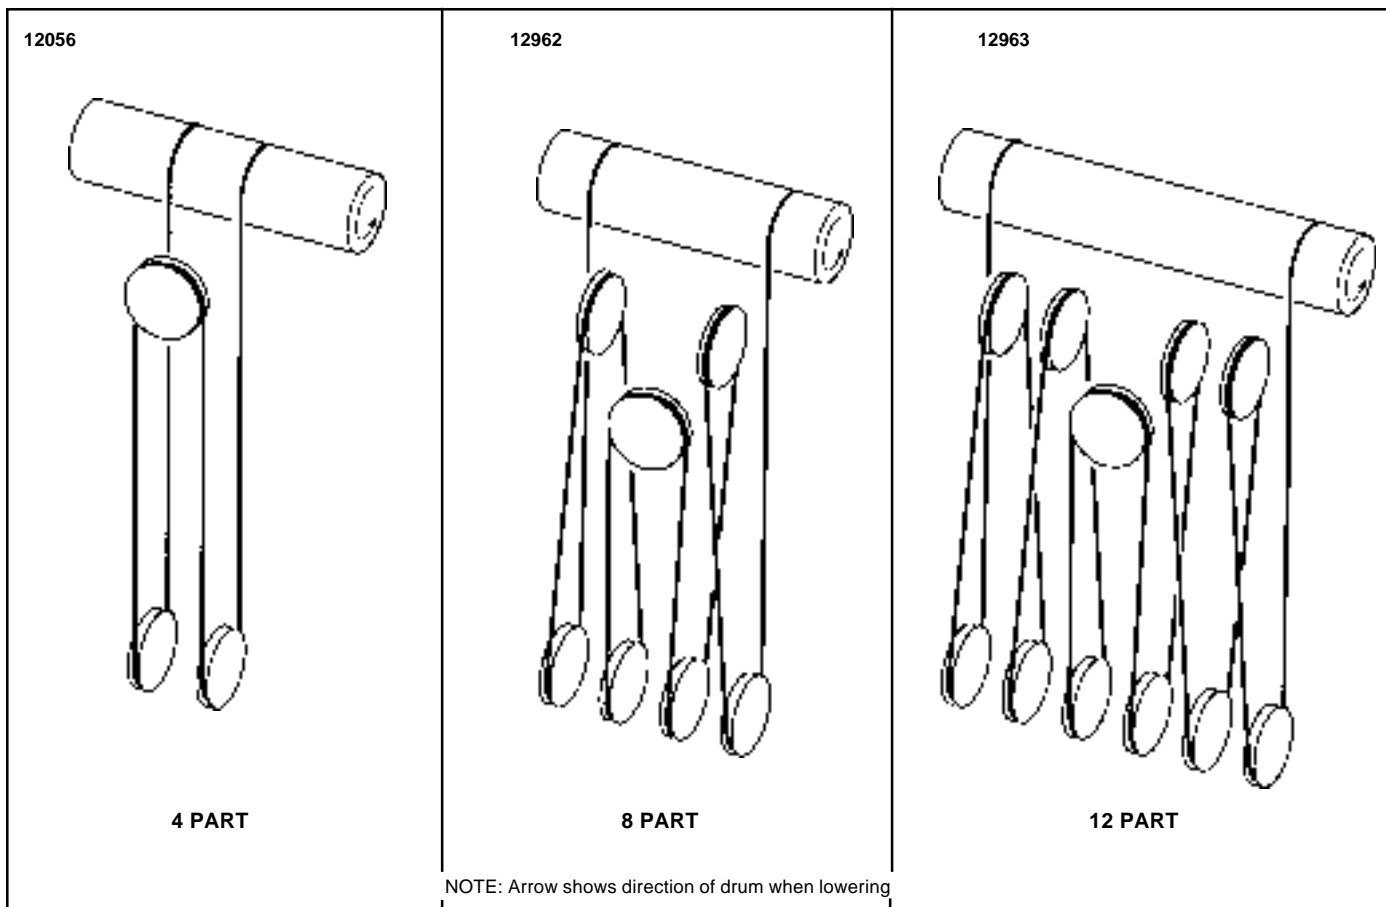

Figure 2-1. Diagrams Illustrating Conventional Type Reeving.
b. These SHAW-BOX trolleys are arranged for CONVENTIONAL reeving arrangements with reeving diagrams as shown in Figure 2-1.
c. Select the proper reeving diagram for your crane as follows: Examine lower block; count number of sheaves and multiply by (2). This is the total parts of ropes. Select correct diagram.